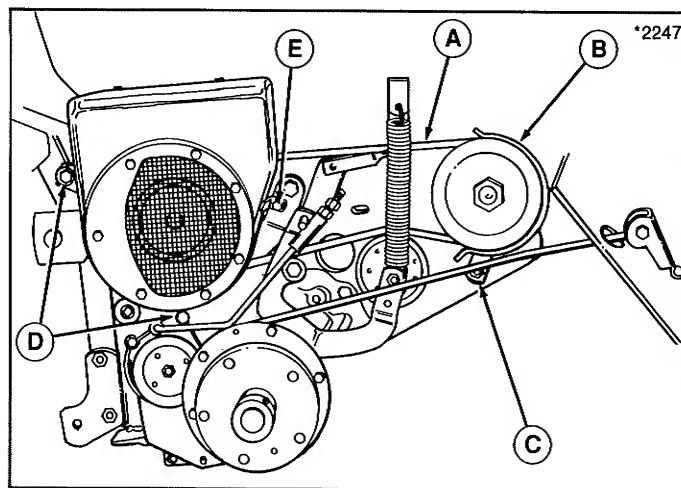

Figure 20. Drive Belt Replacement
3. Remove the capscrew (C, figure 20) and remove the belt guard assembly (B).
4. Remove the two capscrews (D) and the taptite screw (E) to remove the fan guard assembly.
6. Reinstall the fan guard with the capscrews (D) and the taptite screw (E).
8. Reinstall the belt guard (B) so the bracket on the back side almost touches the pulley hub. Hold the guard in place and tighten the capscrew (B).